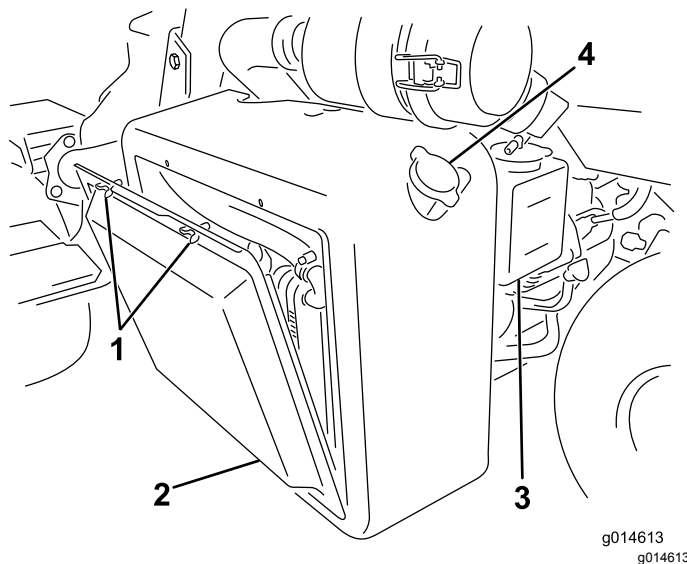
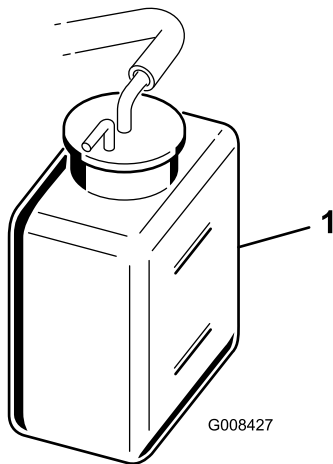

Figure 35
Figure 36
1. Remove the radiator screen (Figure 35).
2. Check the coolant level (Figure 35 and Figure 36).